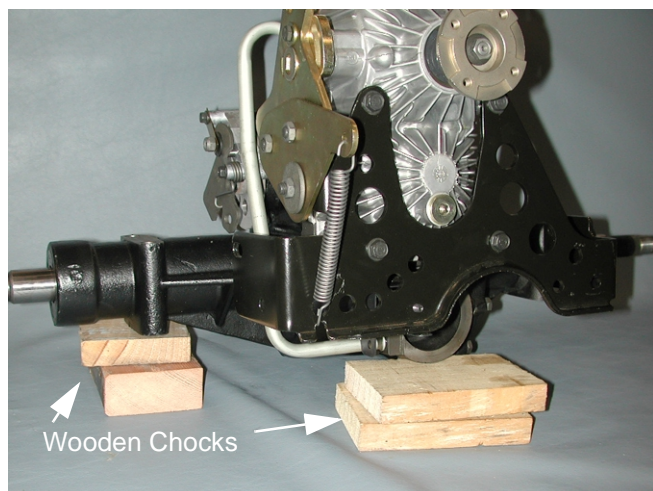

Figure 3
6. Chock and level the hydrostatic transmission from below. See Figure 3.